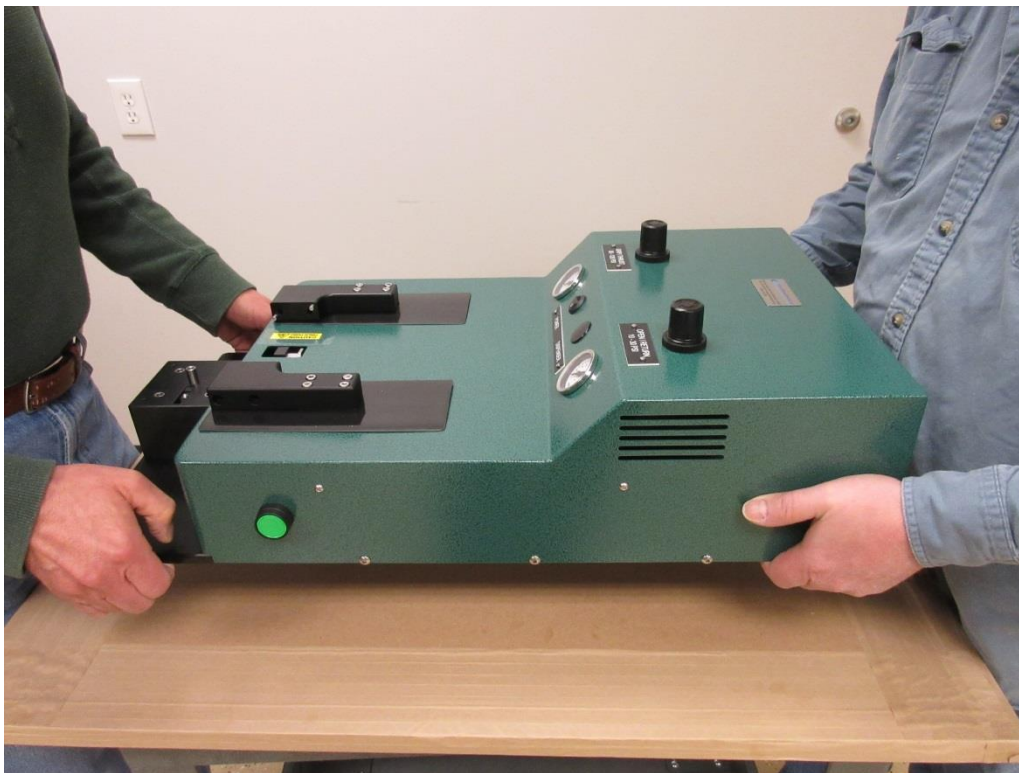

Figure 2.3: Always Team Lift for Safety
- Due to the weight of the unit (approximately 55 lbs/25 kg), the unit should always be moved or repositioned by two (2) people to reduce the possibility of injury. (Figure 2.3)